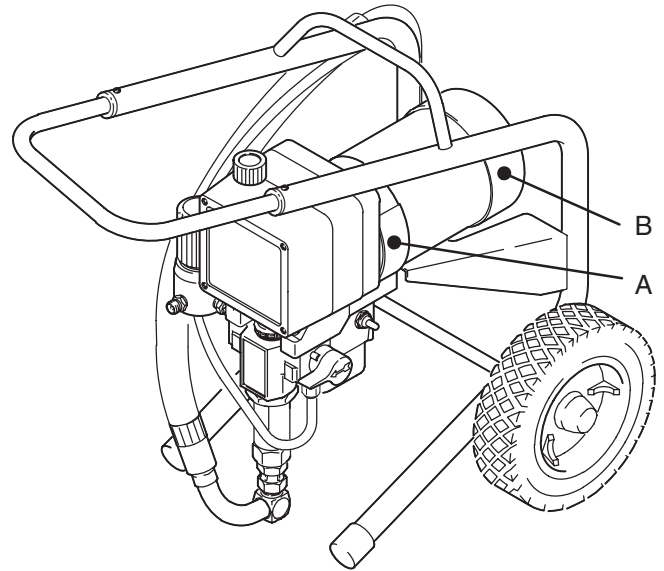

Fig. 13
2. Remove the motor brush inspection covers (A). See Fig. 13.
1. Remove the fan cover (B). See Fig. 13.